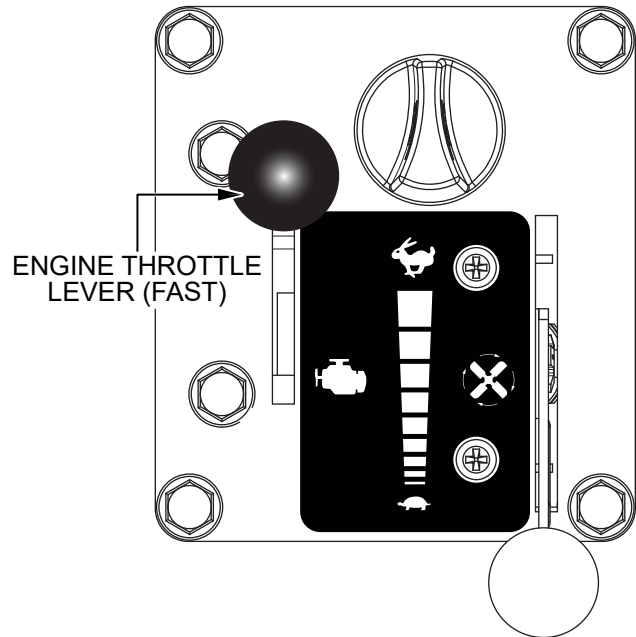

Figure 22. Engine Throttle Lever (Fast)
- Place the engine throttle lever in the **FAST** (rabbit) position. See Figure 22.